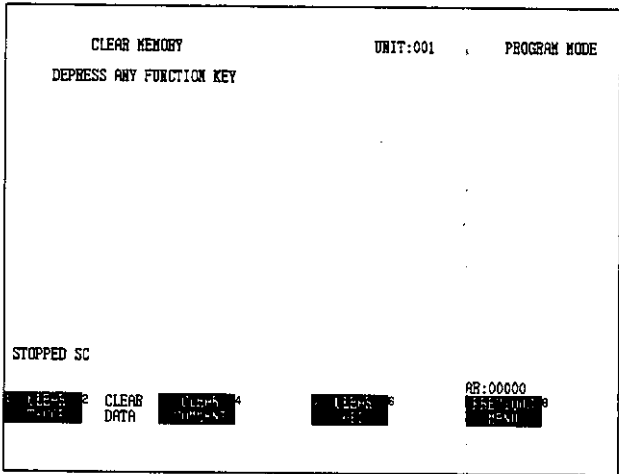

Figure 6.25
(2) To clear all memories at the same time, select Clear All as shown in *Figure 6.25*.
- (3) Selecting Previous Menu as shown in *Figure 6.26* returns the screen to *Figure 6.25*.
- (4) Select Confirm and the selected memory will be cleared. If Cancel is selected instead of Confirm, no operation will be carried out and the screen will return to the one from which the Clear request was made.
- (5) See *Appendix A.2 Operational Messages* for information on the messages displayed.